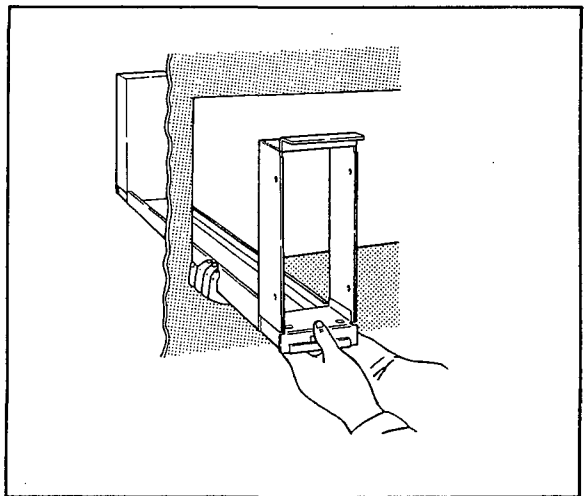

Figure 5-4. Inserting Instruments into a Panel (2).
- c. First insert the housing to be located at the extreme left end of the panel cutout and then place all other housings in their correct locations in the panel. All housing should be in close contact with each other. See Figure 5-4 and 5-5.